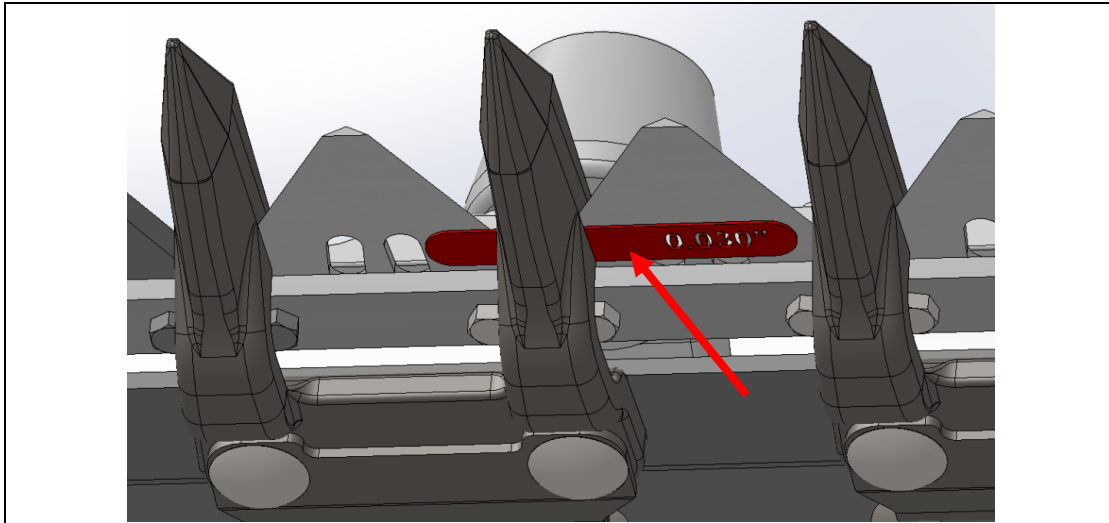

Figure 10: Image showing feeler gauge between guard and LH knife.
16. Start with the LH knife and insert a 0.030" feeler gauge between the center guard (right in front of LH gooseneck) and the bottom of the sickle section. We install this shim in this area to make sure the LH knife does not have too much down pressure onto the guard. Figure 10.